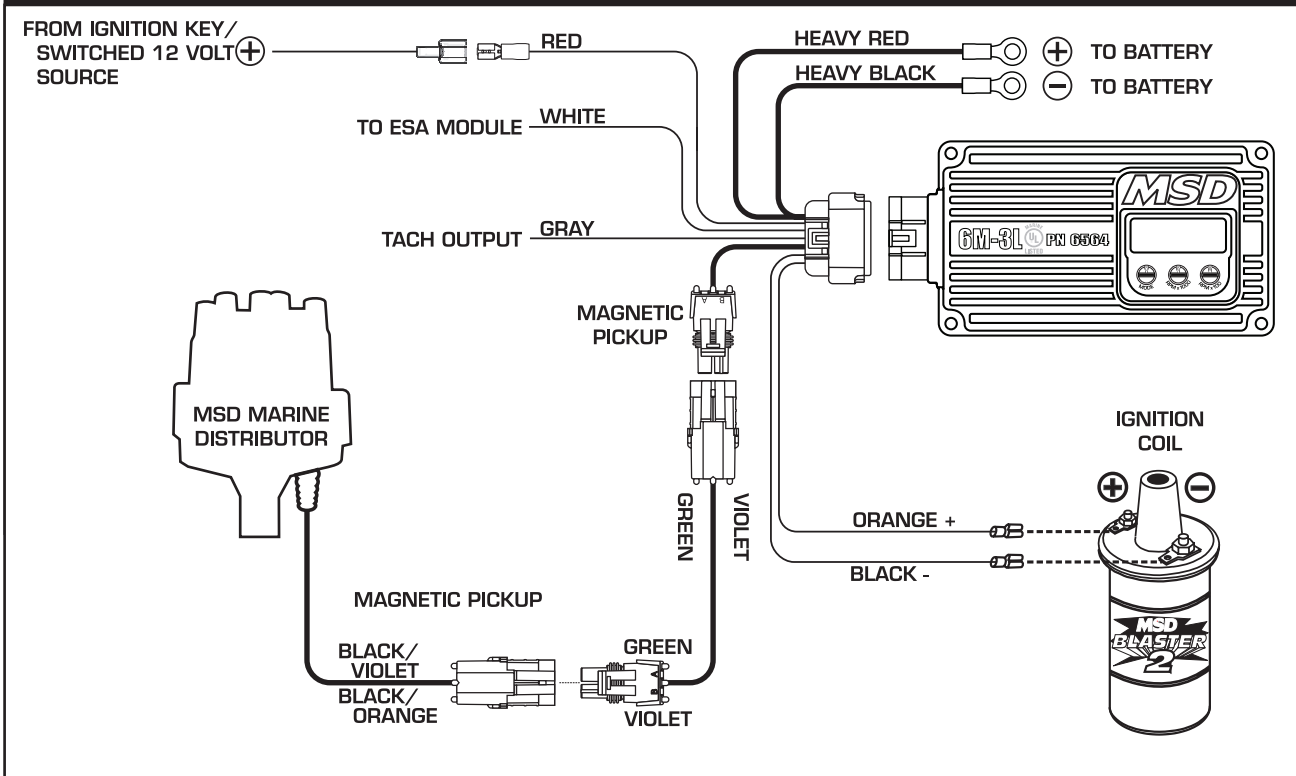

**Figure 7 Checking for Spark with the White Wire.**
5. Tap the White wire to ground several times (See Figure 7) . Each time you pull the wire from ground, a spark should jump from the coil wire to ground. If spark is present, the ignition is working properly. If there is no spark skip to step 6.